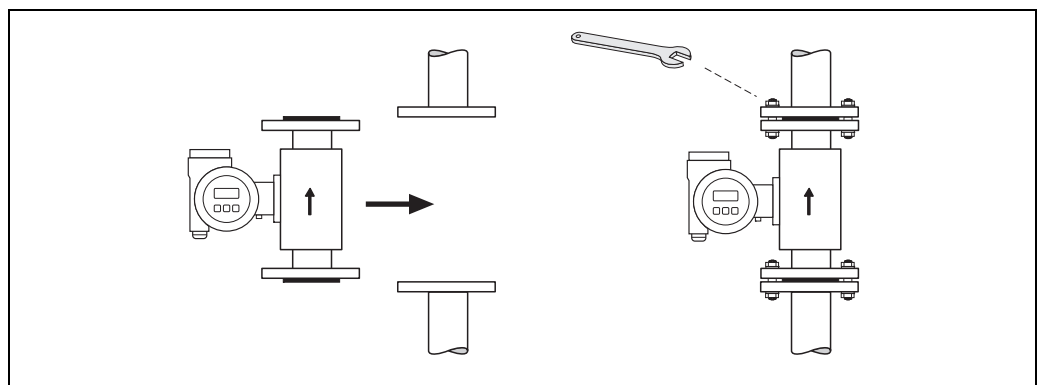

Fig. 19: Mounting Promag P sensor
1. Locate the ground disk and the additional seal(s) between the device flange and pipe flange (→ Fig. 19).